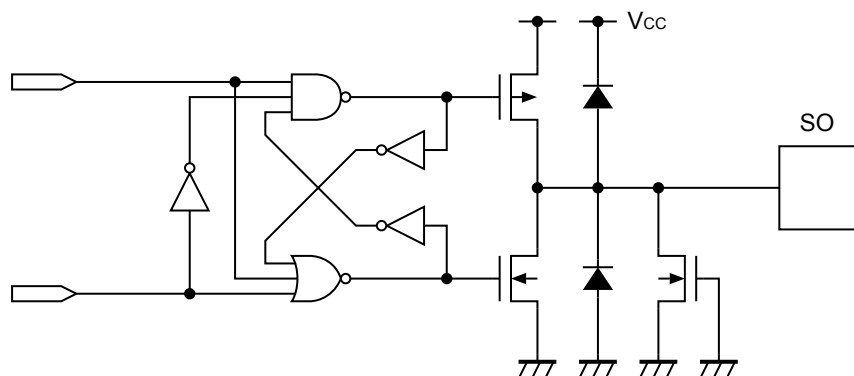

Figure 23 SO Pin
**Figure 23** shows the equivalent circuit of the output pin. This pin has the tri-state output of "H" level/"L" level/high impedance.